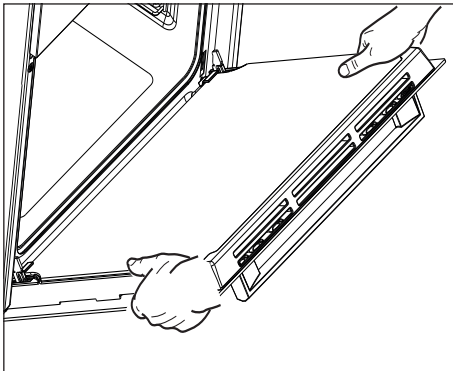

Figure 40
- Open the door to the full extent (fig. 40).